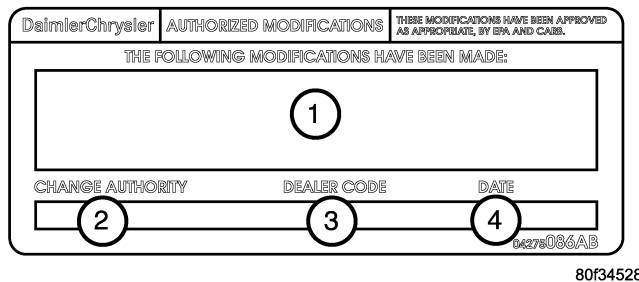

Fig. 1 AUTHORIZED MODIFICATION LABEL
17. Type the necessary information on the "Authorized Modification Label" p/n 04275086AB and attach near the VECI label (Fig. 1).